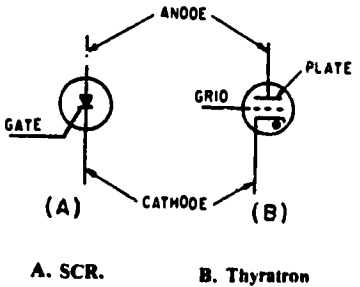

Fig 3-21. Comparison of an SCR and a thyatron.
The basic operation of the SCR can be compared to that of the thyatron. The thyatron is an electron tube, normally gas filled, that uses a filament or a heater. The SCR and the thyatron function in a very similar manner. Figure 3-21 shows the schematic of each with the corresponding elements labeled. In both types of devices, control by the input signal is lost after they are triggered. The control grid (thyatron) and the gate (SCR) have no further effect on the magnitude of the load current after conduction begins. The load current can be interrupted by one or more of three methods (1) the load circuit must be opened by a switch, (2) the plate (anode) voltage must be reduced below the ionizing potential of the gas (thyatron). (3) the forward-bias current must be reduced below a minimum value required to sustain conduction (SCR). The input resistance of the SCR is relatively low (approximately 100 ohms) and requires a current for triggering; the input resistance of the thyatron is exceptionally high, and requires a voltage input to the grid for triggering action.